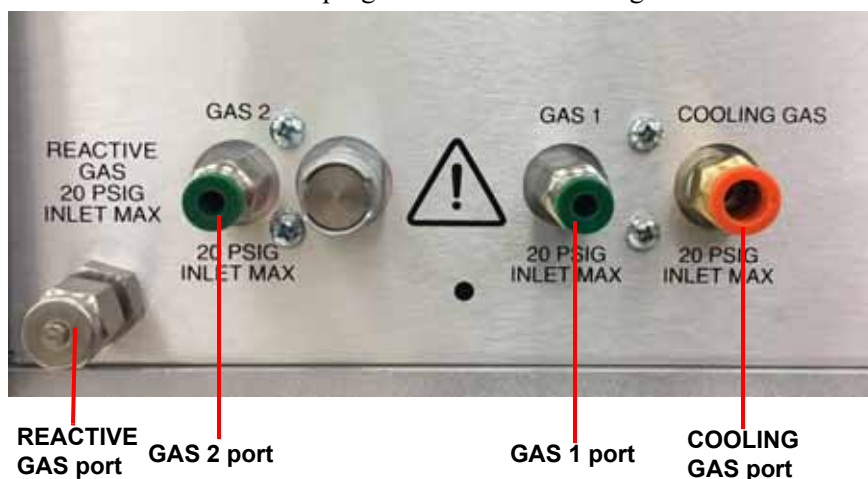

Figure 6 Gas connections on the back of the Discovery SDT.
- 3 Connect the primary gas line to the **GAS 1** port using 1/8-inch O.D. tubing. Teflon® TFE tubing is recommended and is supplied in the instrument shipping accessory kit. If desired, connect a second gas to the **GAS 2** port. The flow rate is controlled through the Mass Flow Controller settings chosen using the instrument control software. Refer to Figure 6 for reference.